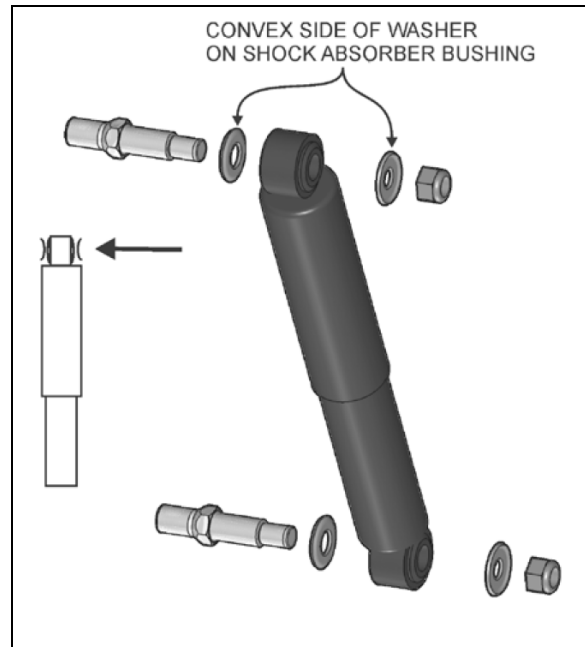

FIGURE 3: SHOCK ABSORBER
The air springs are made from a special compound rubber molded to the proper contour and dimensions. The entire vertical load of the vehicle is supported by these springs. The I-beam front axle is provided with air springs that are attached to the subframe and to the axle (Fig. 3).
3. Place the inner washers (with washer convex side facing the shock absorber rubber bushing) on each shock absorber pin (Fig. 3).